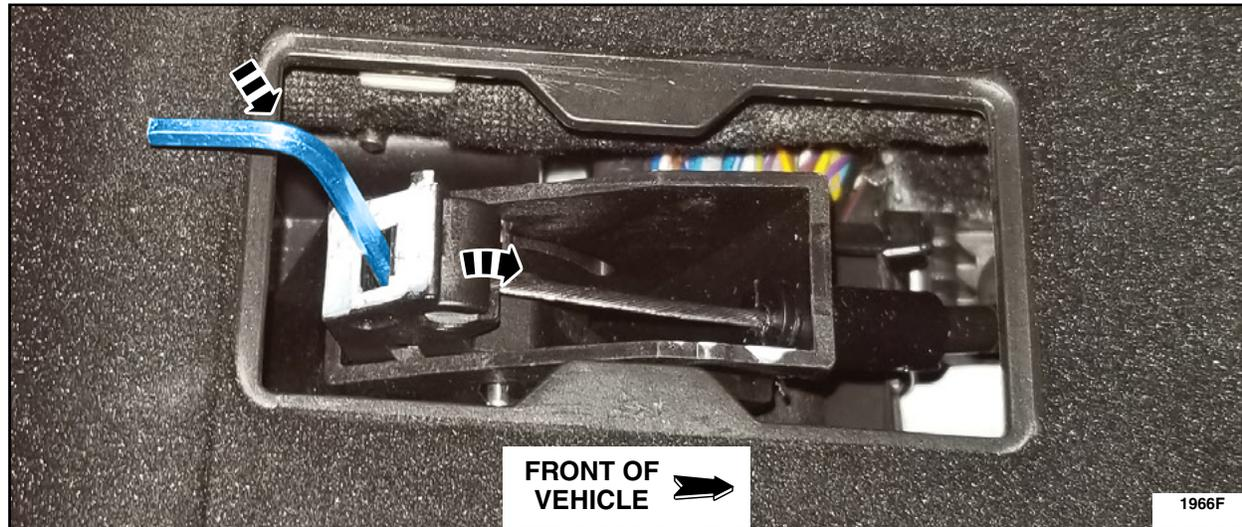

FIGURE 6
7. Using the palm of your hand, press downward on the Allen wrench until you hear or feel a pop and the MPR lever has released and is positioned fully forward. Remove the Allen wrench. See Figure 6.